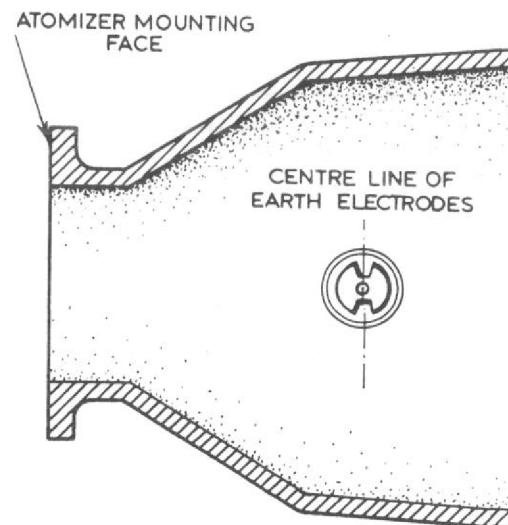

Fig.7 Orientation of igniter plug.
(2) Position the gasket on the plug body, then insert the body with the earth electrodes positioned at right-angles to the starter axis as shown in fig.7.
(3) Position the plug cap, orientated as noted in para. 35 (3), on the body and secure with the bolts and tabwashers.
(4) Torque tighten the bolts to the specified figure (Table 2) and lock by bending up the tabwashers.
(5) Assemble the cable connector to the igniter plug and fully tighten.
(6) Using wire, Table 1 item 6, lock the cable connector to the plug.
(7) Refit access panels on inner skin of air intakes.
(8) Thoroughly examine the engine to ensure that nothing has dropped into the engine and remove all tools, etc. from the air intakes.